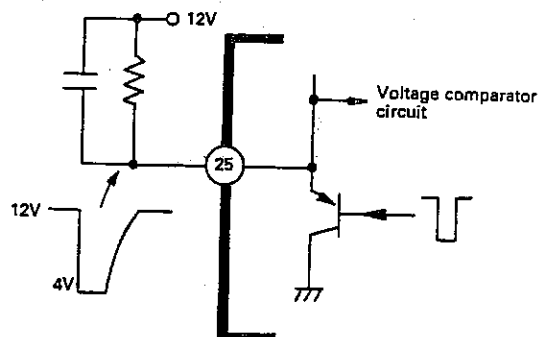

Figure 18.
Figure 18 shows how the horizontal sync separation output is processed. The separation output passes through emitter follower (PNP type) and goes out of pin ②⑤: at the time, it is of a negative pulse which is made of DC 4V (sync tip voltage) and DC 12V (base voltage = V_{CC}).